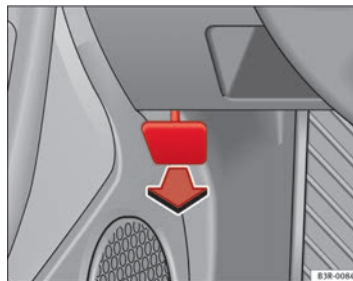

Fig. 167 Detail of footwell area on driver side: lever for unlocking the bonnet.
- To release the bonnet, pull the lever under the dash panel ⇒ Fig. 167 in the direction indicated (arrow).